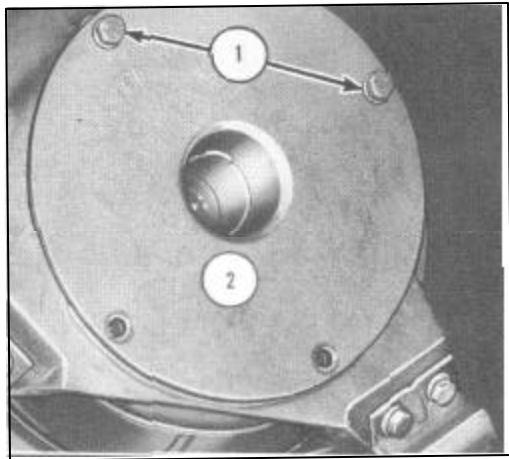

FIGURE 141
5. Install the two transmission bolts (1), Figure 141, to hold the aligning flange (2) in position.